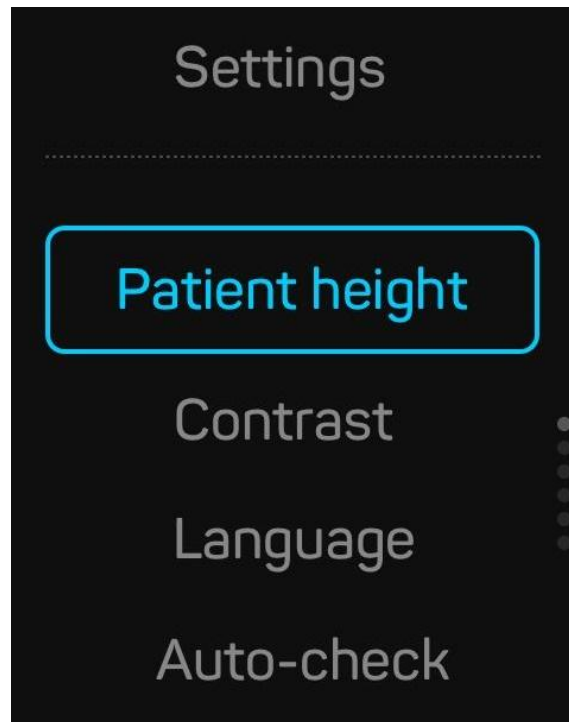

Figure 9 - Settings menu
- You arrive in the Settings menu (see Figure 9).